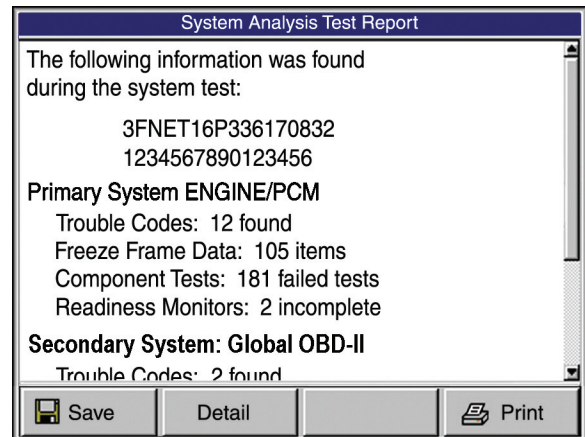

Figure 5.2: System Analysis Test Report Screen
- 4 Press the **Detail** function key (Figure 5.2 on page 23) to display details for the test items.